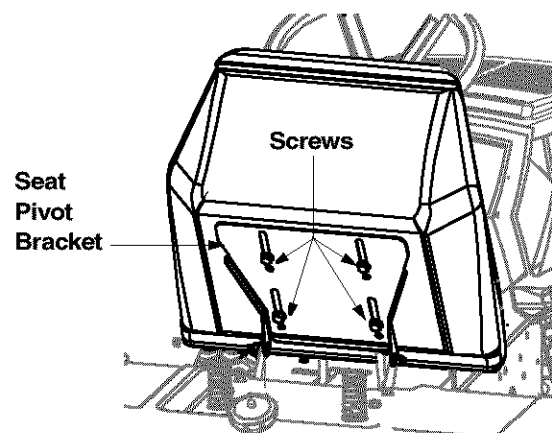
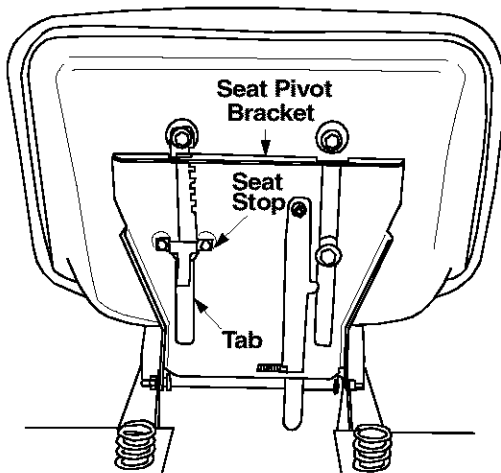

Figure 4
Figure 5
One of two types of seats are used on these garden tractor models: a manual adjustment seat and a quick adjustment seat. See Figure 4 and Figure 5 to identify which seat is on your unit. Follow instructions pertaining to your garden tractor model only.
- Turn the seat around and place in position against the seat pivot bracket, lining up the slotted holes in the pivot bracket with the holes in the seat. Select desired position for the seat, and secure with the four screws. See Figure 4.
- Pull out tab on seat stop and hold open while sliding seat out of seat pivot bracket. See Figure 5.